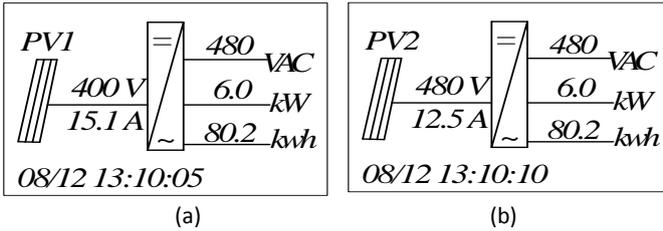

Figure 5.2 - Default Indication Interface for Normal Operation
(2) Normal operation mode: Default indication interface for normal operation is shown in Figure 5.2 (a) and 5.2 (b). The switching time between (a) and (b) is 5 seconds.